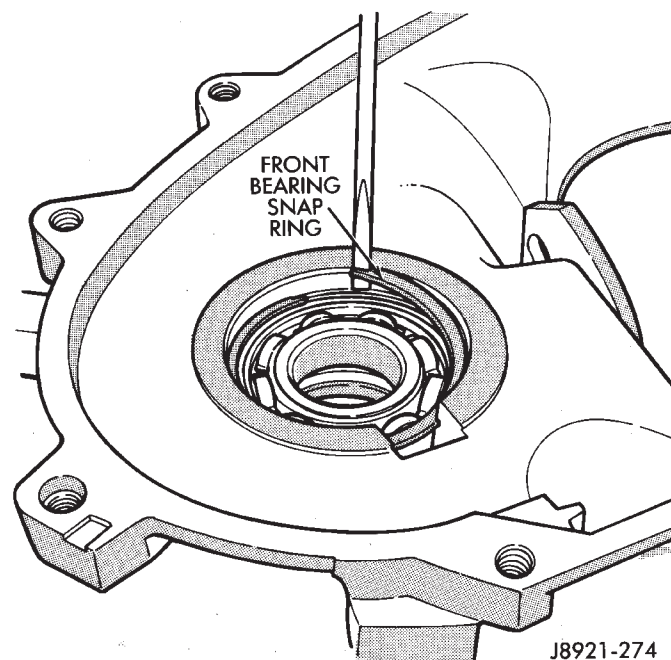

Fig. 45 Front Output Shaft Front Bearing Snap Ring Removal
(1) Remove snap ring that retains front output shaft front bearing in case (Fig. 45). Then remove bearing. Use hammer handle, or hammer and brass punch to tap bearing out of case.
(3) Install front bearing snap ring (Fig. 45).
(4) Install new front output shaft oil seal as follows: